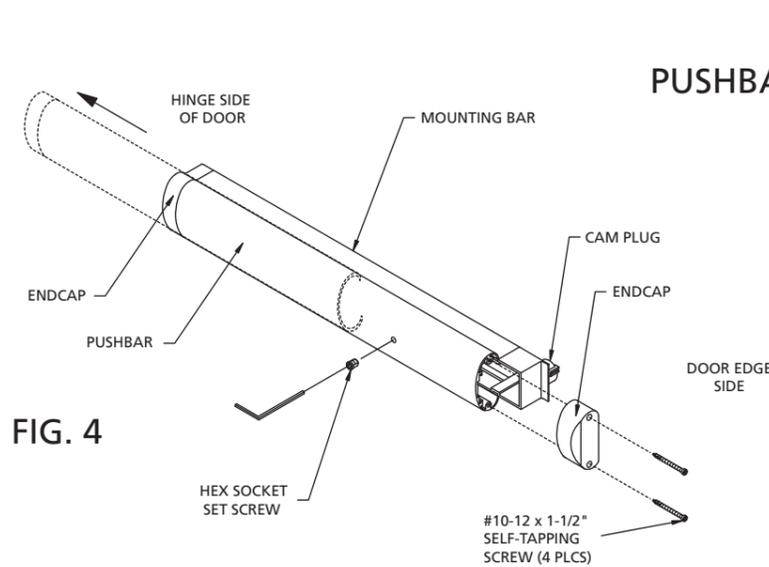

FIG. 4
E.1 PUSHBAR SEPARATION (Fig. 4):